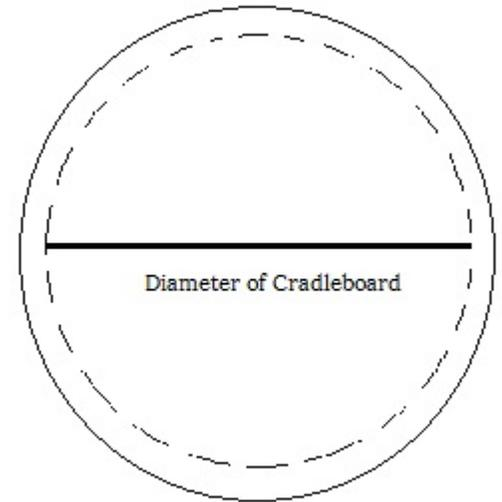

Fig. 3
- 2) Using the compass, draw a circle to match the diameter of the cradleboard cover. Add half an inch around for a seam allowance. This will be the bottom of the body portion of the support.(Fig. 3)
- 8) Draw two circles of Tyvek using the length of the head area plus half an inch for seam allowance as the circumference, similar to Fig. 3, but using the head length measurement for the diameter.
the length and width of the tab. Cut out a piece of polyethylene sheeting and cover it with soft-structure Tyvek using the tab's dimensions. (see Fig. 3)